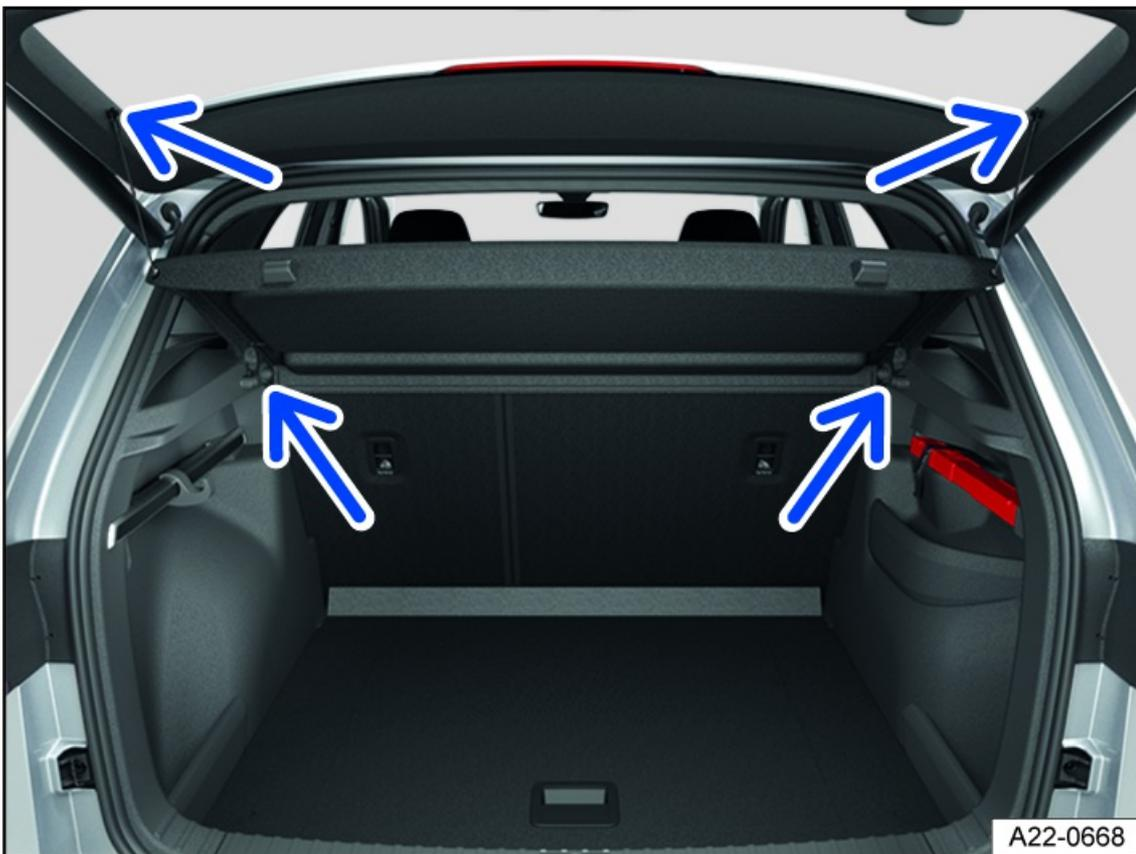

Fig. 136 In the luggage compartment: installing and removing the luggage compartment cover (general example).
1. Unhook the top retaining straps from the trunk lid *fig. 136* (upper arrows).
2. Push the luggage compartment cover out of the side holders from below *fig. 136* (lower arrows).
1. Press the luggage compartment cover into the side holders in the luggage compartment *fig. 136* (lower arrows).
2. Hook the retaining straps onto the trunk lid *fig. 136* (upper arrows).